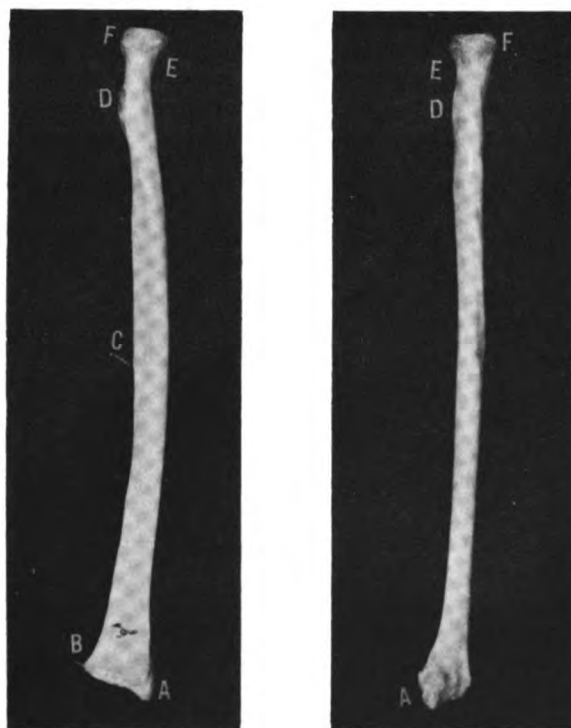

Figure 4-6 The Radius - AP and Lateral Views
THE RADIUS. The radius is somewhat triangular-shaped in its lower two-thirds, but as you go up to the proximal end (toward the elbow) it becomes rounded. It curves slightly as it goes up to the elbow, too. There are a number of structures on the radius that you should recognize. They are the styloid process (A), the ulnar notch (B), the interosseous crest (C), the radial tuberosity (D), the neck (E), and the head (F), as shown in Figure 4-6.